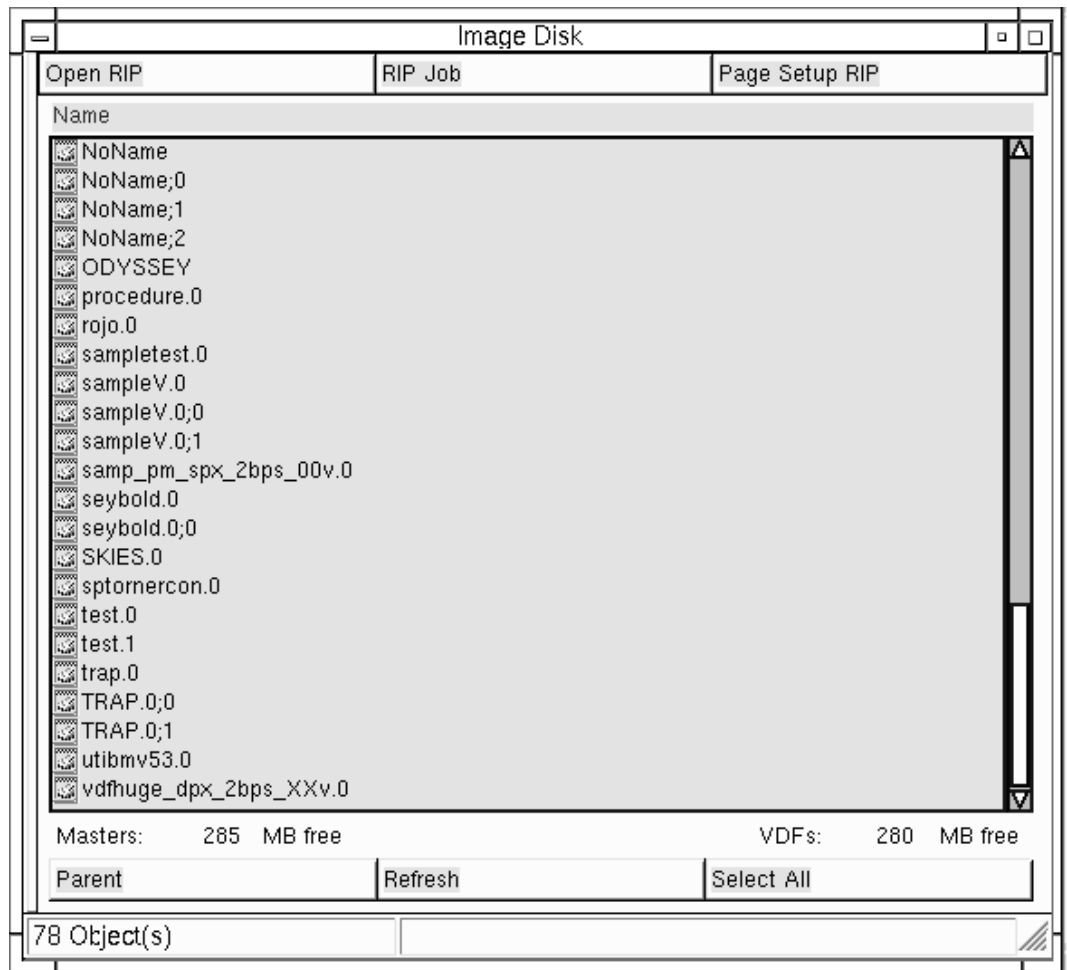

Figure 114. Image Disk Window
- 1 Open the **Image Disk** window, as shown in Figure 114 on page 166.